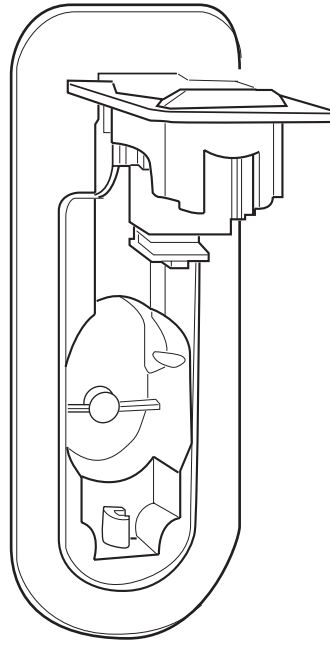

Figure 10. Latch in Open Position
- 2 Raise the latch to the fully open position, and open the door as shown in Figure 10 on page 15.